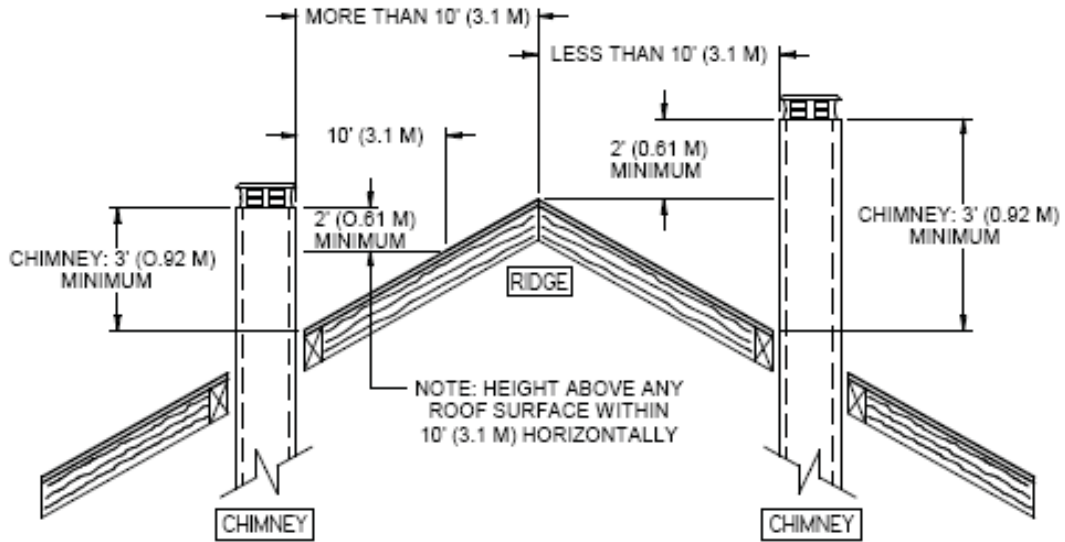

Figure 36a
6. The chimney must extend at least 3 ft. (92 cm) above its point of contact with the roof and at least 2 ft. (61 cm) higher than any wall, roof or building within 10 ft. (3.1 m) of it. See **Figure 36a and 36b** to determine the configuration that applies to your roof (flat or sloped roof and the distance between the chimney and the highest point of the roof and/or the nearest chimney).